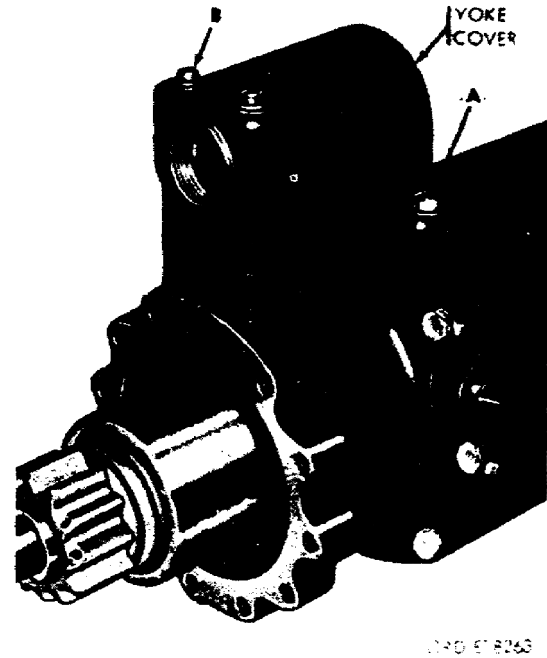

Figure 12. Removing or installing yoke cover attaching parts.
c. The shift lever yoke, controlling the drive assembly, is held in place by the yoke cover. The fillister-head screws (fig 12) are now removed to free the yoke cover from the intermediate housing.